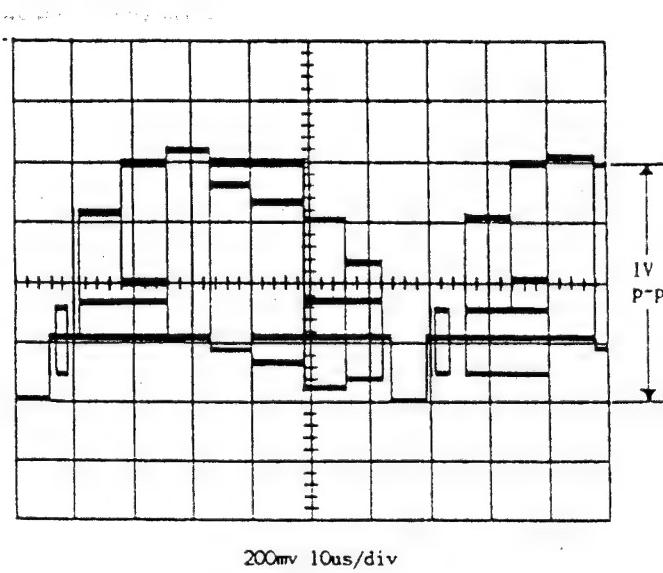

Fig. 12
- (1) Connect the oscilloscope to TP4201.
- (2) Adjust VR4001 so that waveform may become $1.0 \pm 0.05V_{pp}$ as shown in Fig. 12.